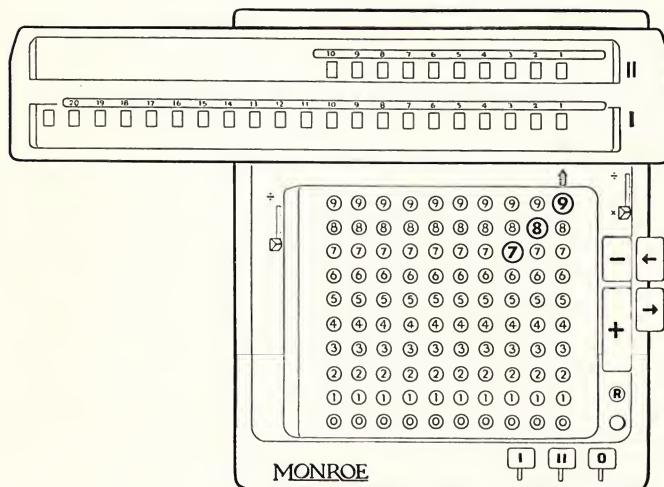

Figure 4
*Step 1*—With the carriage in "1" position set 789 on extreme right of keyboard, as shown in Figure 4. Hold plus bar down until 4 appears in upper dials.